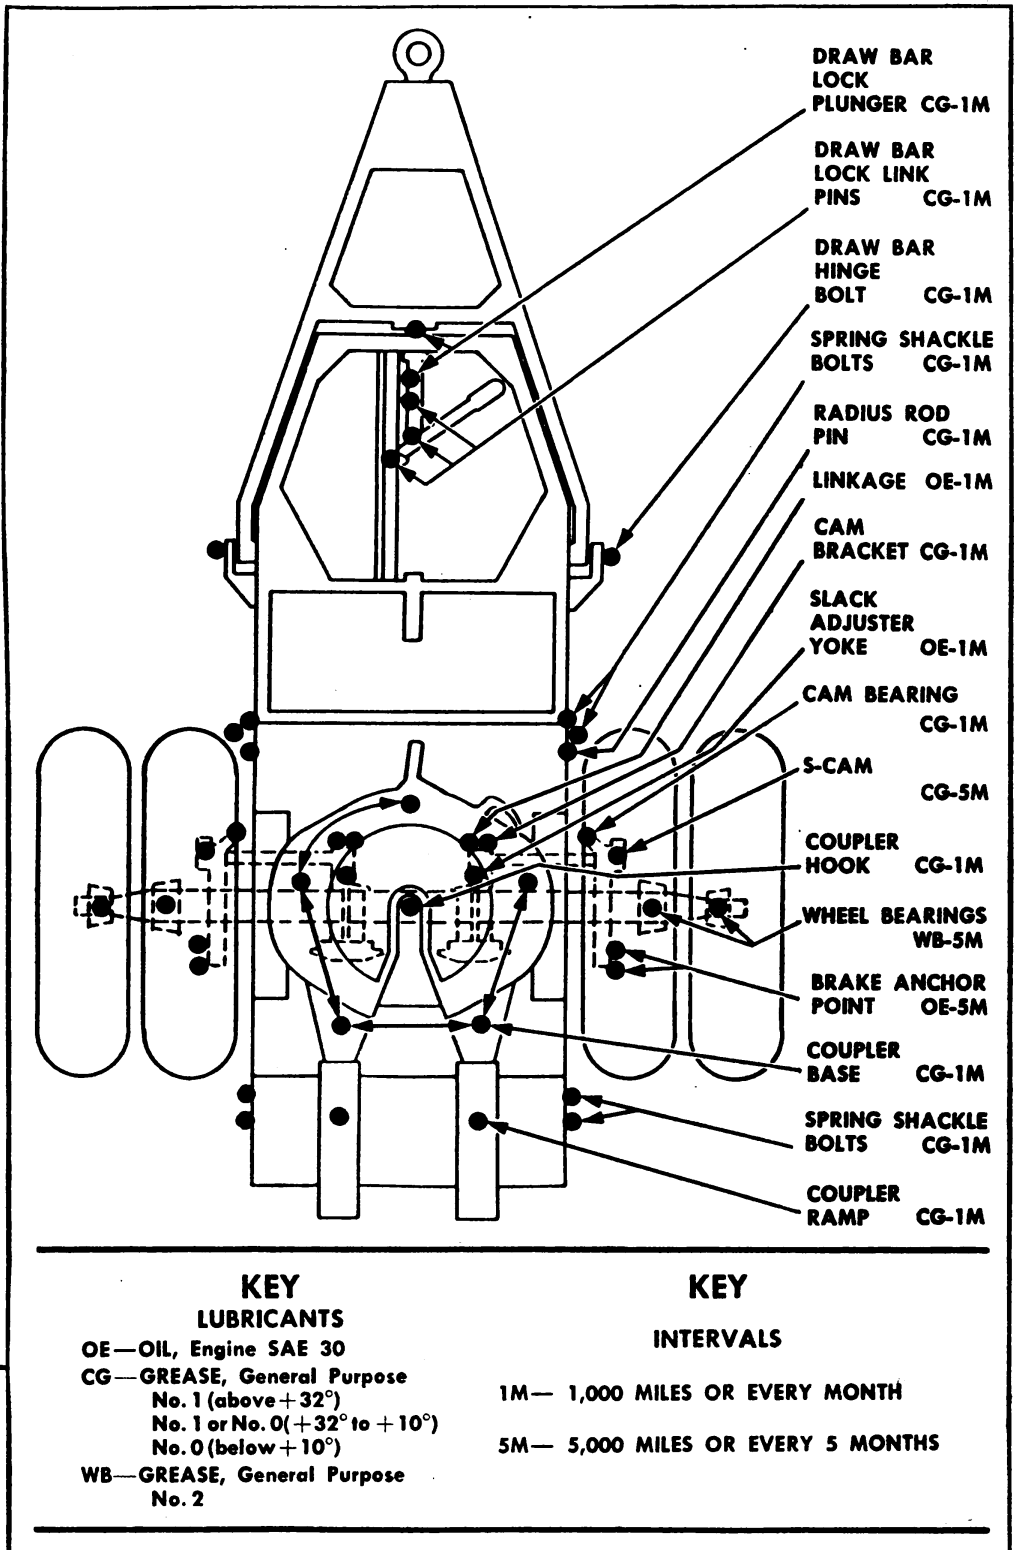

FIGURE 10. LUBRICATION—DOLJ Y
2. LUBRICATION.—*a. Lubrication.*—(See lubrication charts.) Figure 9 illustrates semi-trailer and coupler mounted on towing vehicle. Figure 10 illustrates dolly.